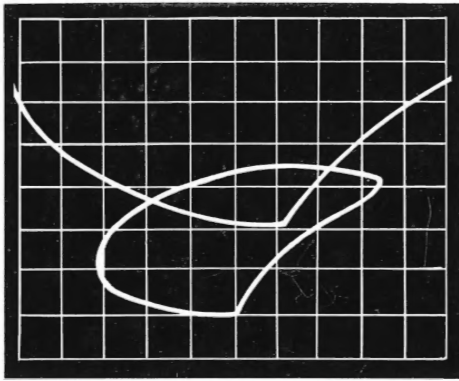

Fig. 3. X-Y display showing flow/volume loop (lower), and Y-T display of volume/time spirogram (upper).
The resultant scope image will show two displays (Fig. 3). The flow-volume loop is the X-Y display produced by time base channel A ($X = \text{flow}$), and the left amplifier ($Y_2 = \text{volume}$). The volume-time spirogram is the Y-T display produced by the center amplifier ($Y_1 = \text{volume}$) and channel B time base (T).